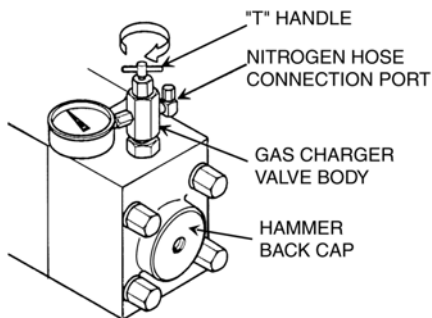

Figure 7. Connecting Gas Charger to Hammer
- b. Remove the gas valve cap located on the hammer back cap and attach gas charger, see Figure 7.
- b. **For disassembly** loosen the bleeder screw on the gas charger very slowly and release the N₂ gas. Watch the pressure gauge until the nitrogen pressure is fully released; (see Figure 7 and 10.)